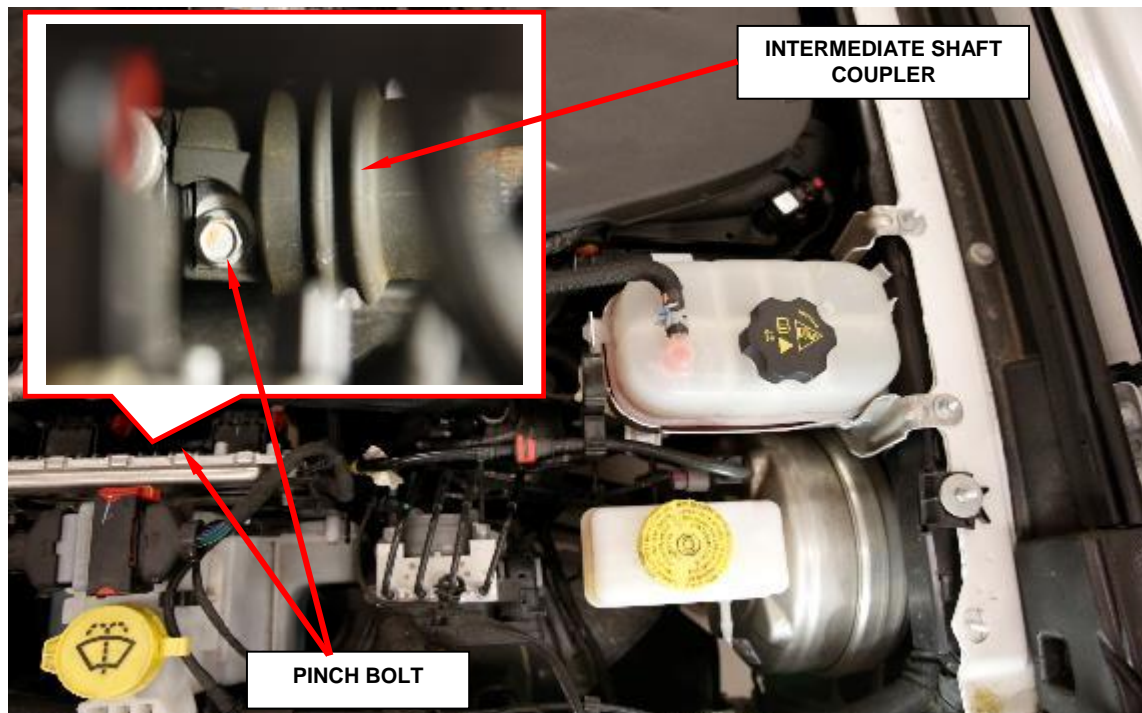

Figure 3 – Intermediate Shaft to Steering Gear Pinch Bolt Location
2. Remove and **DISCARD** the intermediate shaft coupler pinch bolt from the steering gear end of the shaft (Figure 3).